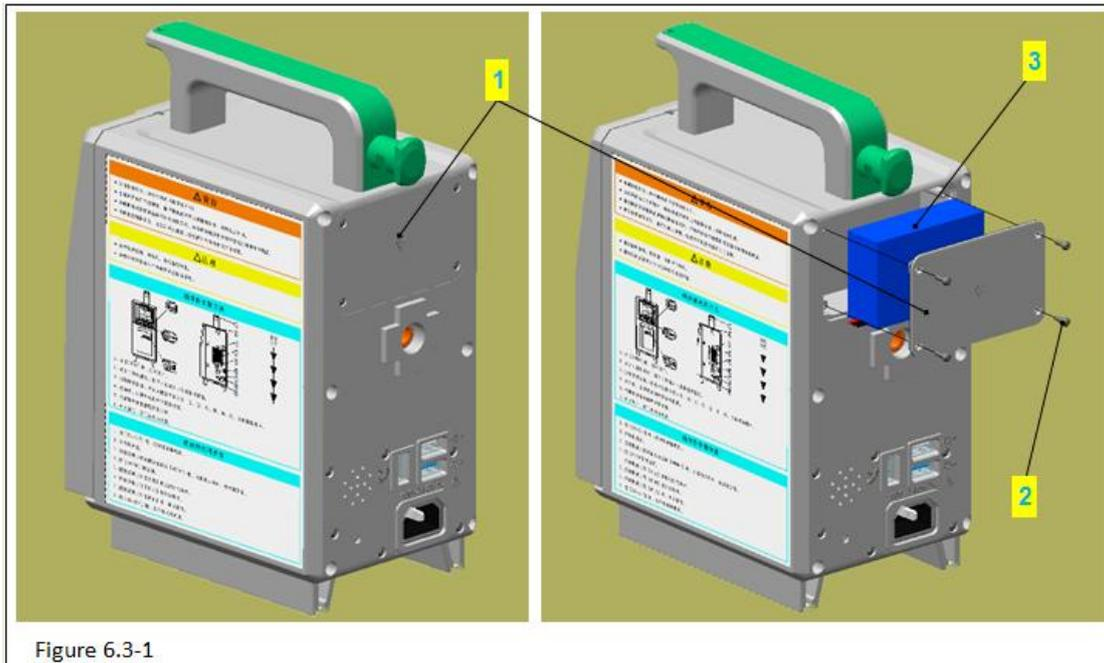

Figure 6.3-1 Note:
1) Use phillips screwdriver to take out the 4 PB2.3 tapping screws (figure 6.3-1/code name 2) in the cover of battery (figure 6.3-1/code name 1).
3) Take out the battery pack lightly (figure 6.3-1/code name 3)